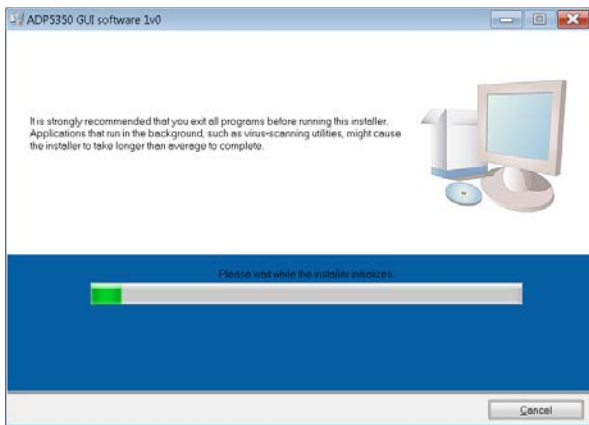

Figure 2. **ADP5350** Evaluation Software Setup
1. Launch the **Setup.exe** file. The dialog box shown in Figure 2 appears.